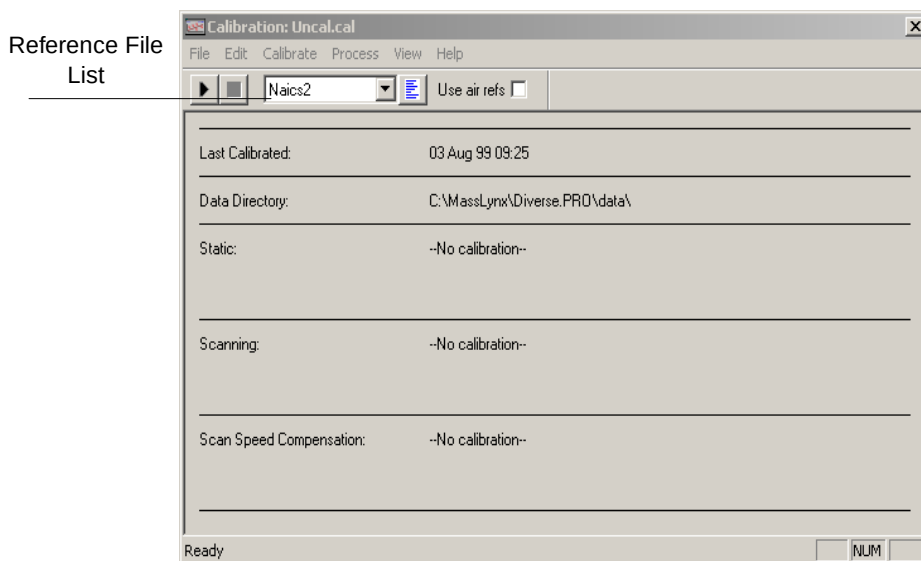
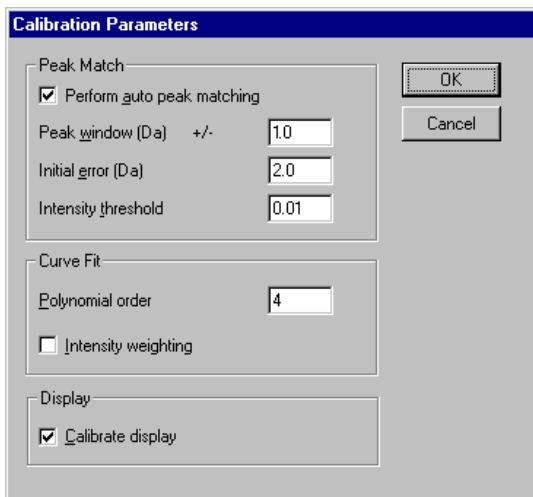

Figure 4-1 Calibration Window
Figure 4-7 Calibration Parameters Dialog Box
1. Select **Calibration > Calibrate Instrument** from the Tune window (Figure 3-3). The Calibration window appears (Figure 4-1).
Select **Edit > AutoCal Check Parameters** from the Calibration window (Figure 4-1). The Automatic Calibration Check dialog box appears (Figure 4-6).
Select **Edit > Calibration Parameters** from the Calibration window (Figure 4-1) to open the Calibration Parameters dialog box (Figure 4-7).